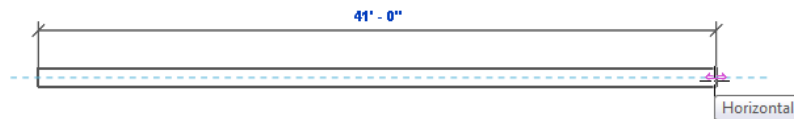

Figure 3-33 The sketched horizontal wall with its controls
5. Move the cursor to the right until the temporary dimension shows a value more than 40'-0" (12192 mm), as shown in Figure 3-33. Click at this location as the endpoint of the wall segment and press ESC twice; the wall is created. Note that, if the dimension is not displayed, you need to click on the created wall to display the dimension. Press ESC.